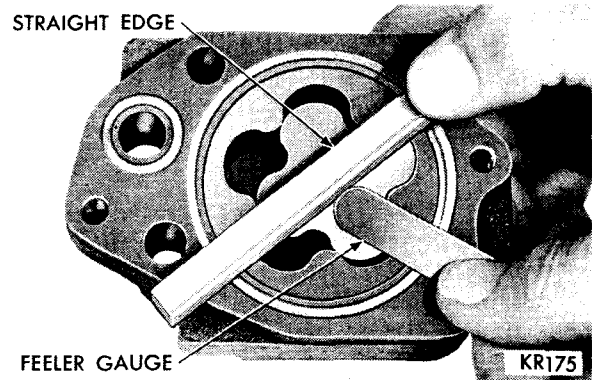

Fig. 47—Measuring Clearance Over Rotors
- (6) Install inner rotor into pump body and place a straightedge across the face between bolt holes (Fig. 47). If a feeler gauge of more than .004 inch can be inserted between the rotors and straightedge, replace pump body.